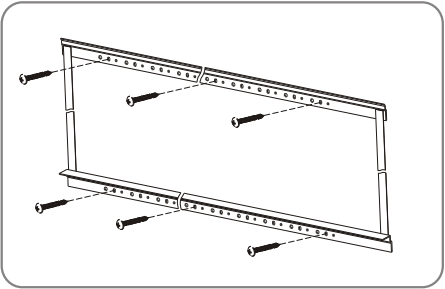

figure 11
- a. Wood wall installation: fix the top and low bracket on the wall using the $\phi 5 \times 60 \text{mm}$ wood screw (3 screws on each bracket) (figure 11).